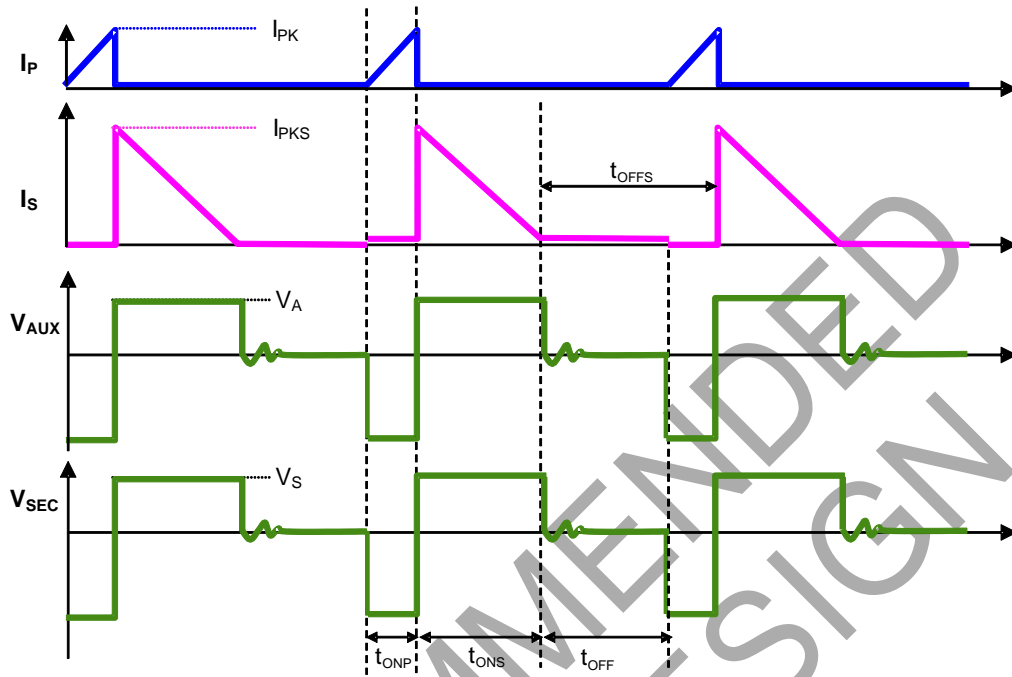

Figure 2. The Operation Waveform of Flyback PSR System
Figure 2 shows the typical waveforms which demonstrate the basic operating principle of AP3776B application. And the parameters are defined as following.
As illustrated in Figure 2, when the current $i_p(t)$ rises up to I_{PK} , the switch Q1 turns off. The constant peak current is given by:
The AP3776B can work in constant current (CC) mode. Figure 2 shows the secondary current waveforms.